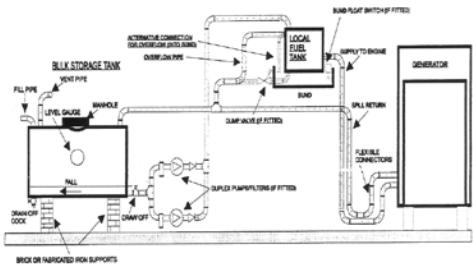

Fig.4.2. With Intermediate Fuel Tank
4.6. With Intermediate Fuel Tank (Fig.4.2)
1. An automatic duplex fuel transfer pump and primary filter system arranged to start the standby pump should the duty pump fail. The transfer pump(s) must be sized to cater for the total fuel required by the engine, i.e. fuel consumed and the spill return volumes (Fig.4.2).
The connection details for these additional items of equipment are indicated. See Fig. 4.2.